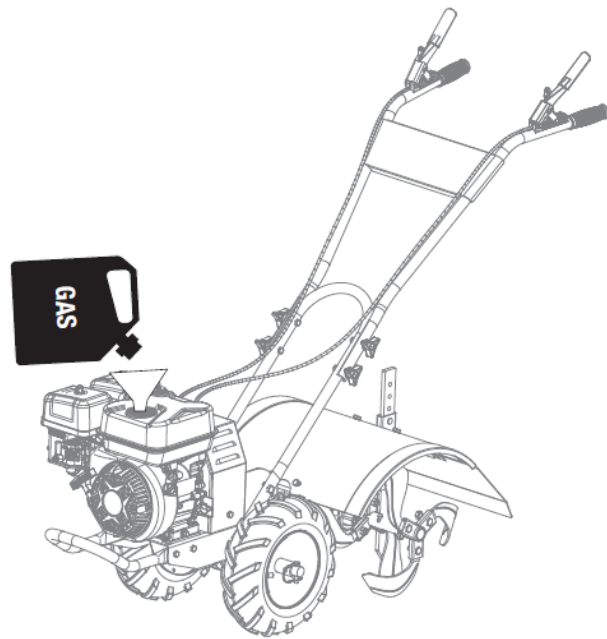

Figure 1-11
- Secure the gas cap and wipe off any excess fuel. See Figure 1-11.